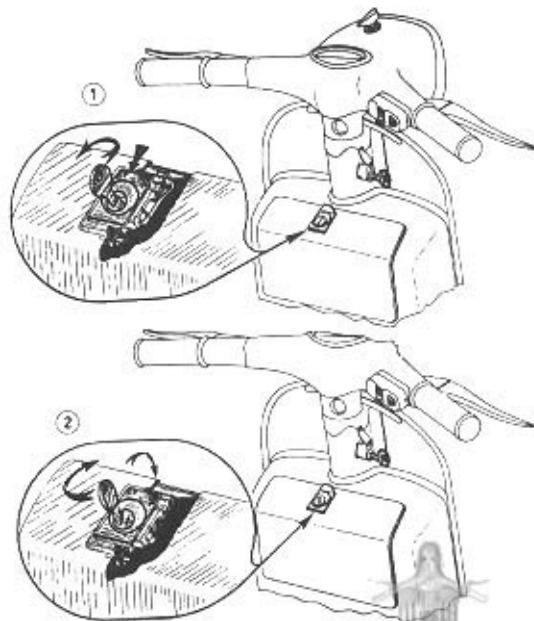

Fig. 6—Front tool box [scooterhelp.com](http://www.scooterhelp.com)
b) Unlocking the handlebars 2. Front tool box lock	<p>To release the handlebars, insert the key in the lock, turn it to the left and pull it back; then turn the handlebars in the normal position.</p> <p>To open the flap door of the front box insert the key in the lock and turn it anti-clockwise, then slide down the external plate of the lock (fig. 6). In order to close it, shut the flap door and press down until the lock clicks against the tool box; then turn the key clockwise and extract it.</p>